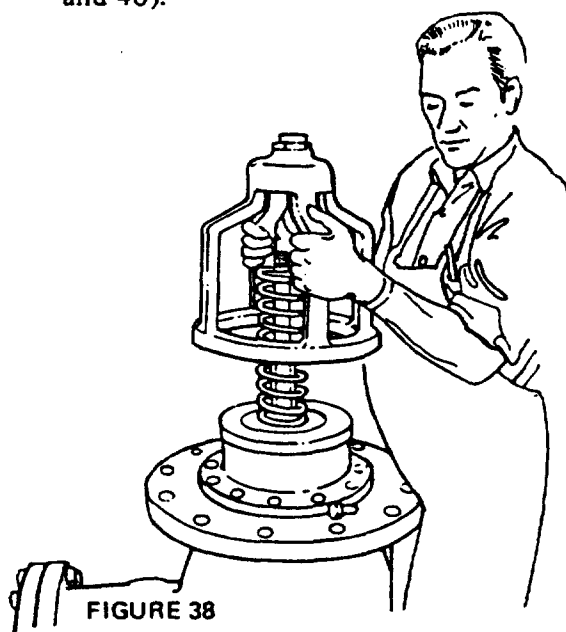

FIGURE 38
- Insert new disc (10) into disc holder (9) and reassemble guide (15), washer (14), and stud nut (12).
- Rest the disc holder assembly on the face of the seat (11) and position the spring (7) and spring retainer (3) over it (Fig. 38). Locate the spring retainer so that its flange bolt holes are matched and aligned with the holes in the seat.